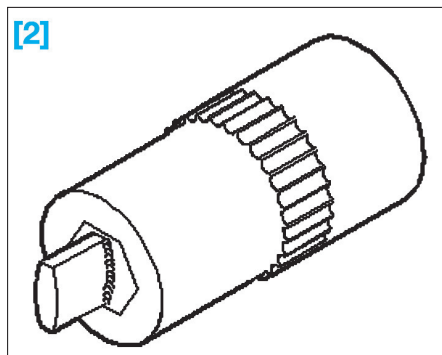

FIG. 46
- [2]. Ecarteur Ref.3424 (Fig.46)